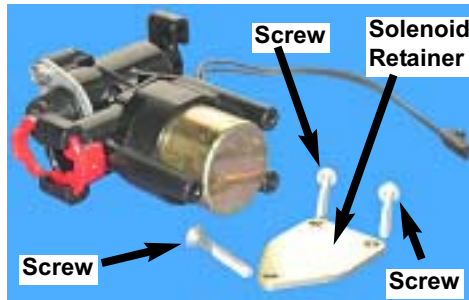

Figure 16
- 1.5 Remove three (3) screws and Solenoid Retainer from top of module (see Figure 16).